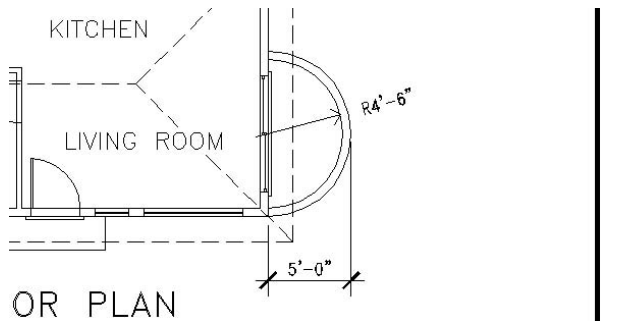

FIGURE 11.25: The radius dimension for the balcony
12. Move the cursor to the outside of the balcony, and place the dimension text so that it looks similar to Figure 11.25.